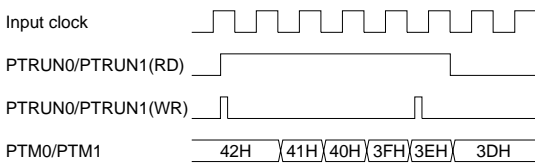

Fig. 6.2.2 Timing chart at RUN/STOP control
- (1) The 16-bit programmable timer actually enters into RUN or STOP status at the falling edge of the input clock after writing to the PTRUN0(1) register. Consequently, when "0" is written to PTRUN0(1), the timer stops after counting once more (+1). PTRUN0(1) is read as "1" until the timer actually stops. Figure 6.2.2 shows the timing chart at the RUN/STOP control.